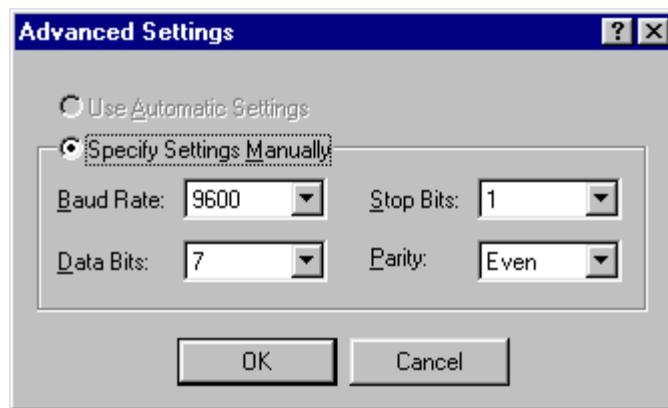

Figure A-2. Advanced Settings, Windows 95/98/ME
5. Click the **Advanced** button (see Figure A-2) to view the communication settings. Some devices (e.g., MICR+) support automatic settings, which allow the driver to determine the present setup of the device. If required, click the **Specify settings manually** radio button and modify the communication setup. Click **OK** when done.